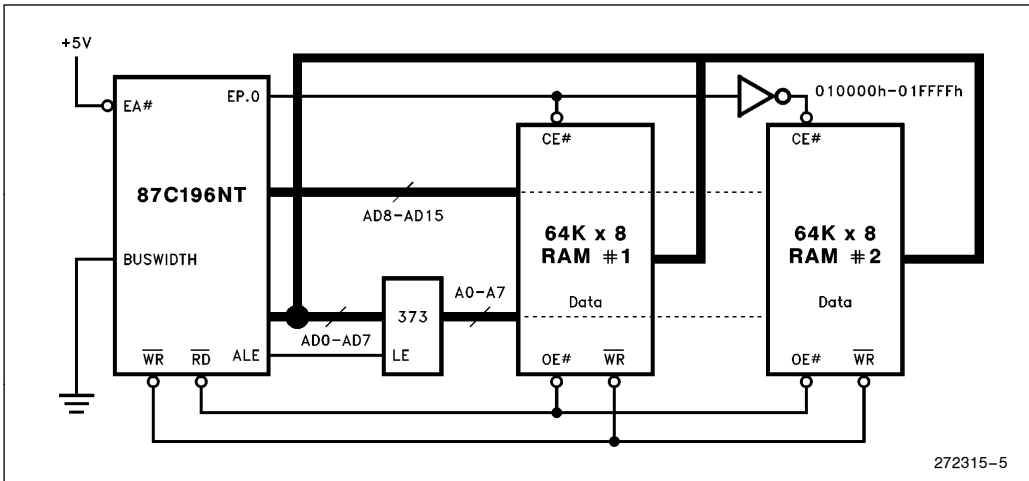

Figure 5-2. 64K Compatible Mode with 128 Kbytes of External Data
Since page 00h is free to use (except for SFRs, etc.), this next memory configuration takes advantage of page 00h in 64K compatible mode (see Figure 5-2). The program counter is limited to 64 Kbyte. But, the (EP)ROM is only mapped in page FFh and the 32 Kbyte memory space in page 00h is now free. This allows use of a 64 Kbyte RAM instead of the 32 Kbyte RAM shown in Figure 5-1. Hence, there is a total of 128 Kbytes of external data available to access when using only one EPORT address line.
Given the memory configuration of Figure 5-2 suppose the following instruction is executed (see code 5-7):